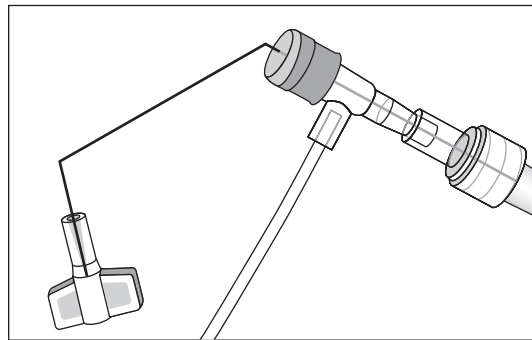

Figure 5
- Kink proximal end of placement wire at connector with sideport (see Figure 5). This minimizes the risk of placement wire extending beyond distal tip of catheter during insertion. (Do not attempt to advance placement wire through septum.)